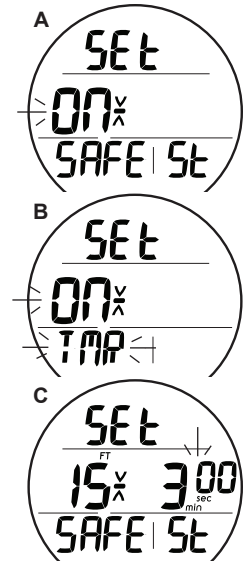

Fig. 62 - SET SS
**Set SS (NORM Safety Stop)**, information includes (Fig. 62):